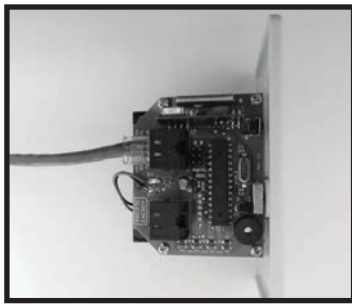

Figure 57: Wall switch interface side.
3. Wall mounted Remote Control Receiver (Figure 57).